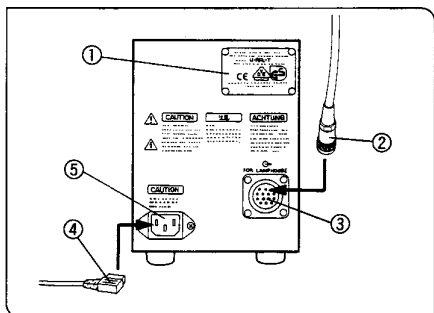

Fig. 5
1. Verify that the voltage and frequency of the AC mains outlet match the requirements indicated on the rating plate ① on the power supply unit. (Fig. 5)
2. Plug the mercury burner socket connecting cord plug ② firmly into the output connector ③. (Fig. 5)
3. Plug the power cord connector ④ into the AC receptacle ⑤. (Fig. 5)